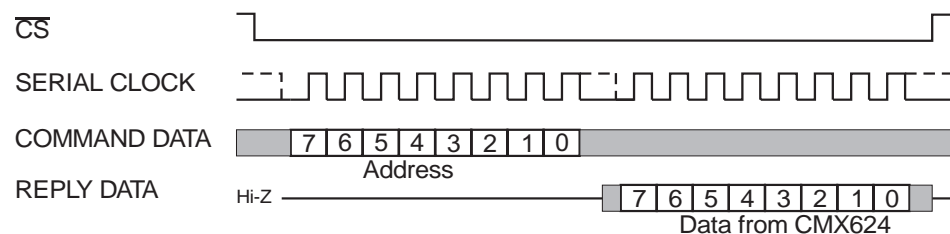

Figure 5: Serial Bus Transactions (One Address byte from  $\mu\text{C}$  and one Reply byte from CMX624A)
2. A single byte of data read out from one of the CMX624's Read Only Registers, as illustrated in Figure 5.